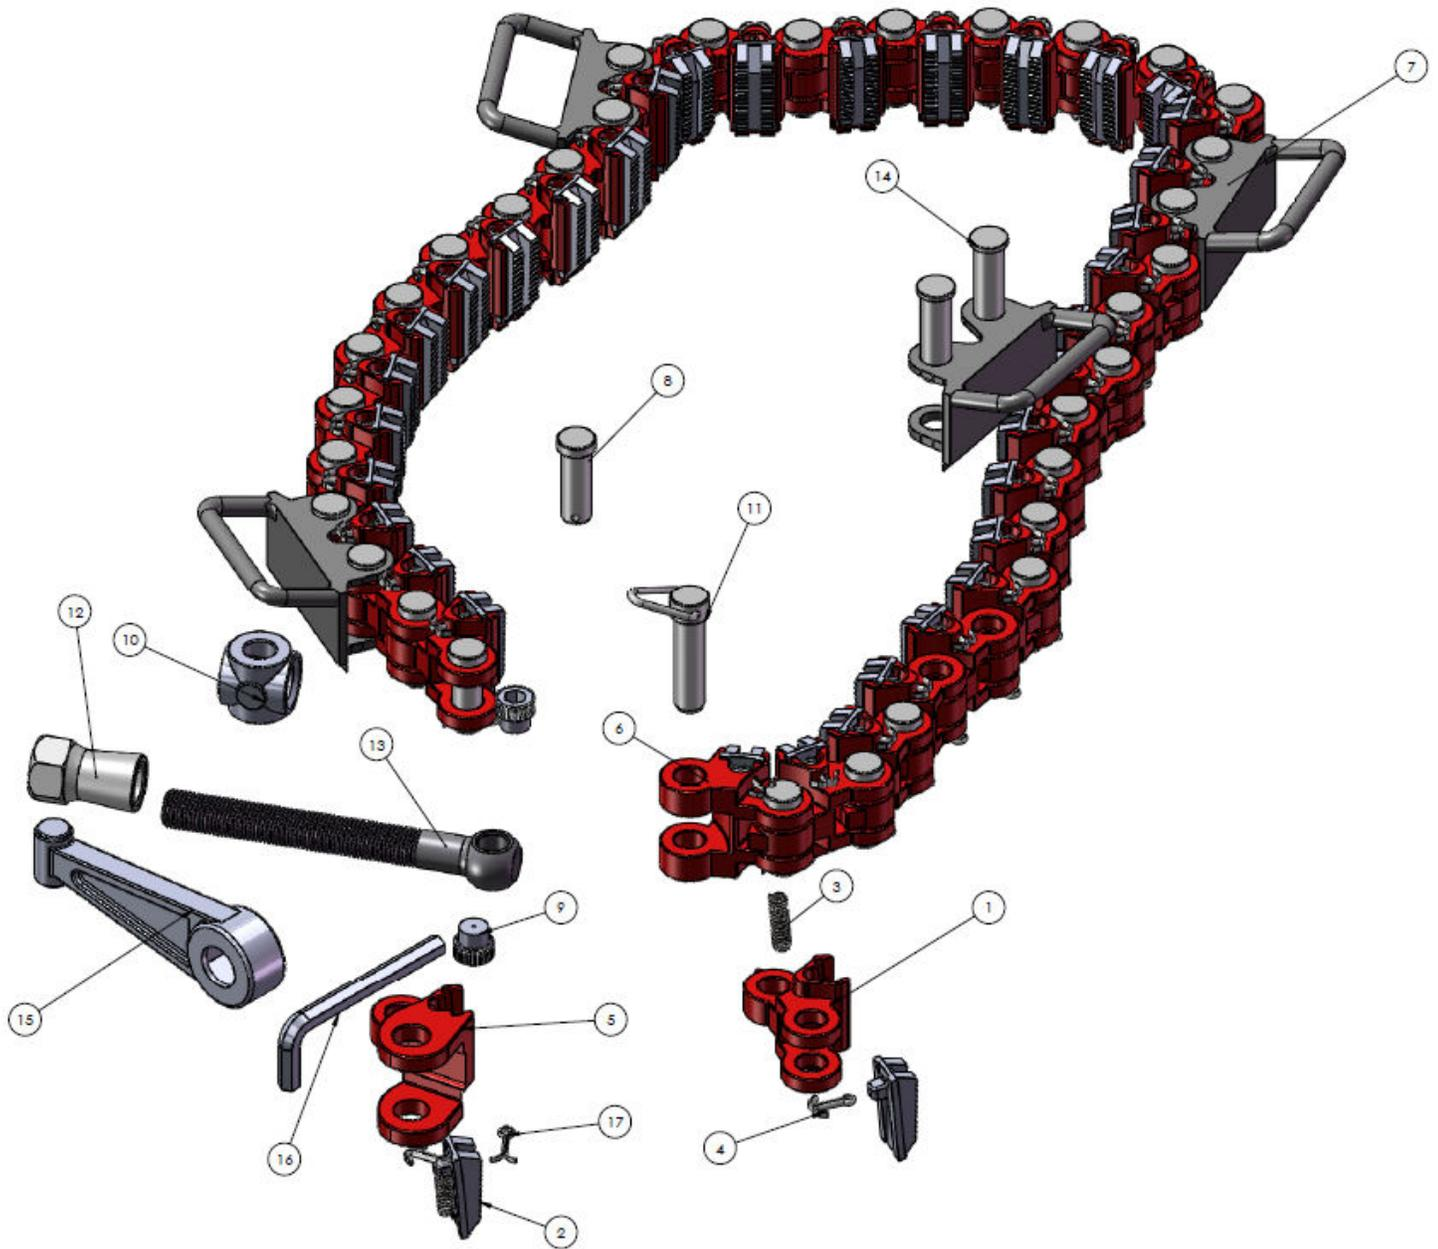

Figure 12 – Type C safety clamp
To open the T and C type clamp, pull the hinge (T) pin (shown in Figure 12 - Item # 11). On the MP, loosen the nut (marked by arrow in Figure 2), releasing tension so it can swing open. Holding the handles, wrap the clamp around the pipe like a belt. Insert pin or on MP, push the screw back into the screw latch link segment, turning the nut to tighten. Use wrench to torque nut. The end user determines the clamping torque necessary to prevent marking/damaging tubular.
Clamps can be shortened and lengthened depending on tubular size used. Clamps are tested before shipment at the largest size range. TIOT recommends removing or adding intermediate links starting from the center of the clamp. Begin by removing cotter pin (item 17 on Figure 12) from intermediate link pin (item 8 on Figure 12). Remove as many pins and links as necessary to shorten, or to lengthen, add pins and links. To add inserts, install spring first, then slide insert into slot compressing spring, and install cotter pin to hold spring/insert.